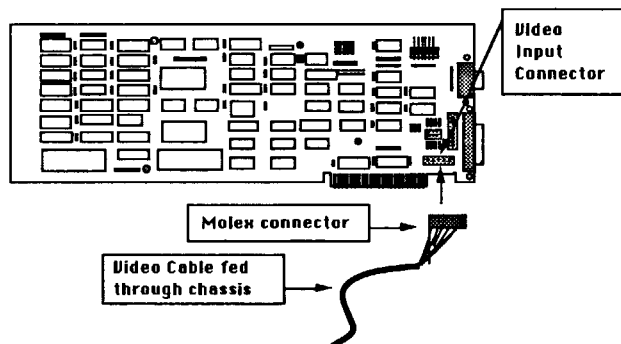

Figure 4
3. Connect the molex connector of the video adaptor cable to the *Video Input Connector* on the Trackstar board, as shown in Figure 4. The molex connector will only fit one way.